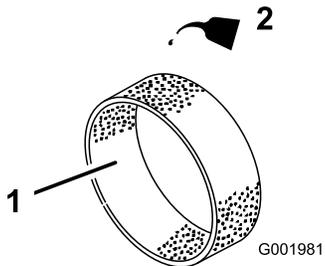

Figure 25
- Put 1 or 2 ounces of oil on the element (Figure 25).